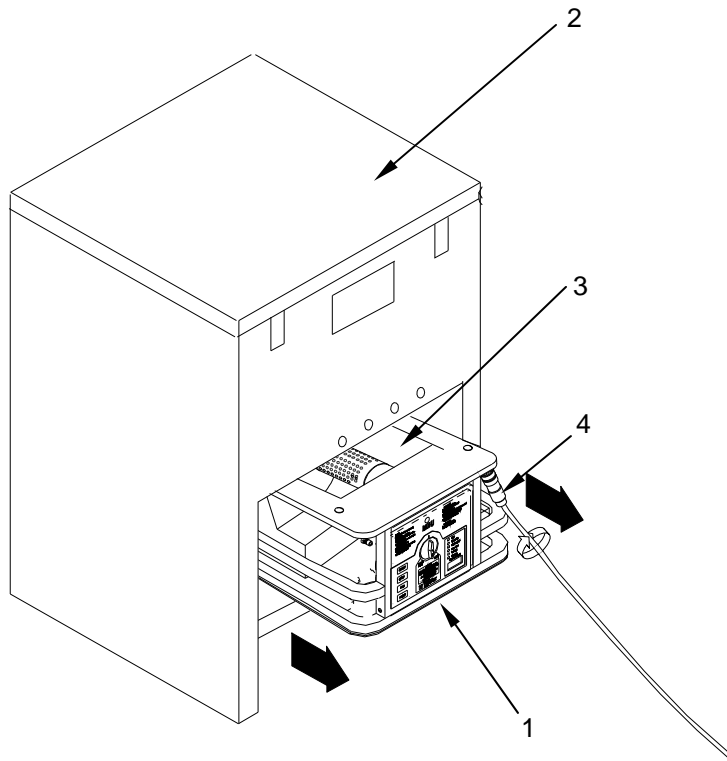

Figure 8. MBU Pre-operational Check.
1. Slide the MBU (Figure 8, Item 1) halfway out of the appliance (Figure 8, Item 2).
2. Check the burner well (Figure 8, Item 3) for debris or the remains of spilled food.
3. Inspect interior of burner well (Figure 8, Item 3) for debris and clean as needed. Refer to WP 0013 for cleaning instructions.
4. Slide MBU (Figure 8, Item 1) back into appliance.
5. Be sure that the system cables (Figure 8, Item 4) are securely attached.